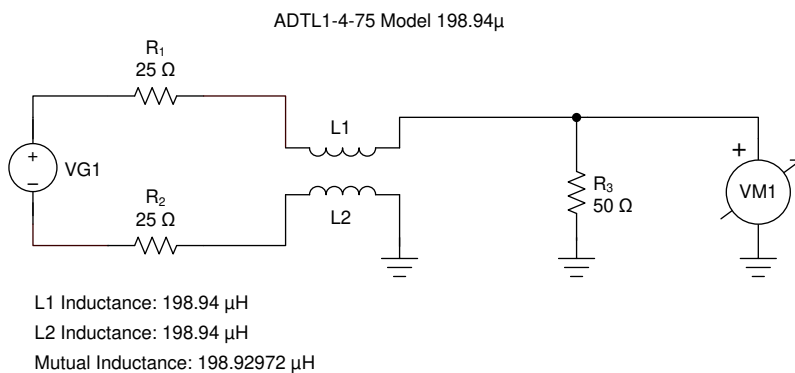
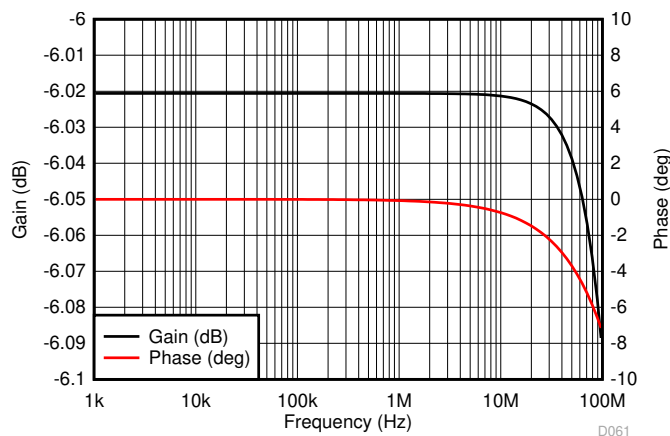

图 8-2. Output Measurement Balun Simulation Circuit in TINA-TI™
图 8-3. Output Measurement Balun Flatness Test
- In the pass band for the output balun, the  $50\text{-}\Omega$  load of the network analyzer reflects in parallel with the  $52.3\text{-}\Omega$  shunt termination,  $R_M$ . These elements combine to show a differential  $1\text{-k}\Omega$  load at the output pins of the THS4561. The source impedance presented to the balun is a differential  $50\text{-}\Omega$  source. 图 8-2 and 图 8-3 show the TINA-TI™ model (available as a TINA-TI™ simulation file) and resulting response flatness for this relatively low-frequency balun providing  $0.1\text{-dB}$  flatness through  $100\text{ MHz}$ .